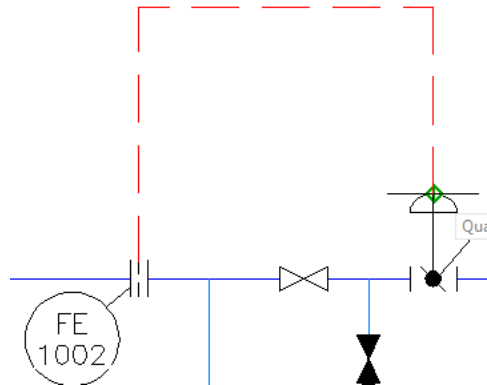

Figure 2-67 Specifying the endpoint of the electric signal line
- Next, move the cursor downward and specify the endpoint on the control valve, refer to Figure 2-67.